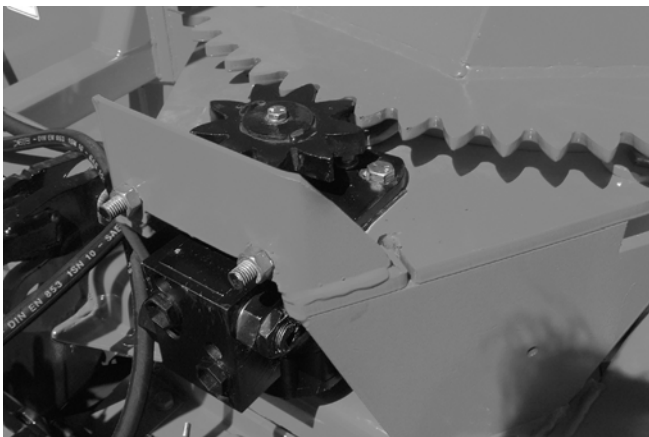

Figure 26
- 3) Install motor and 9 tooth gear. The thickness of the 9 tooth gear is slightly more than the ring-gear. Make sure it exceeds on both sides of the ring gear (Fig. 26).